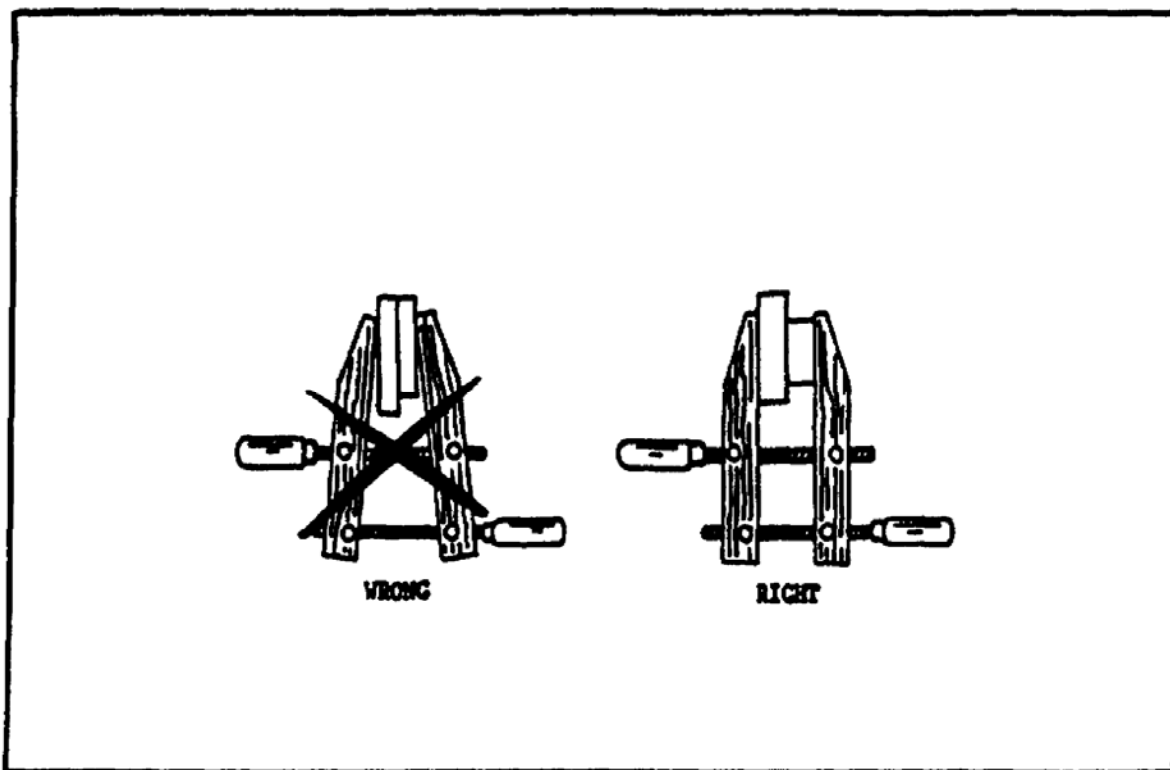

FIGURE 44. USING HAND SCREW CLAMPS - JAWS PARALLEL.
(1) When using the hand screw clamp, keep the jaws parallel to apply even pressure along the work and to properly hold the pieces of work together (figure 44).
(2) When soft material can be damaged by the jaws, soft material should be placed over the face of each jaw.
(3) Use rawhide or soft leather to protect highly polished surfaces.